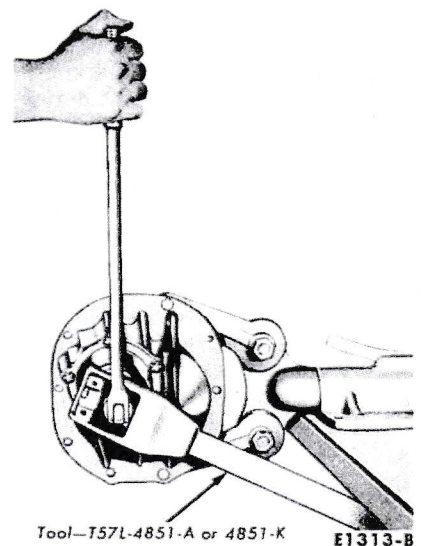
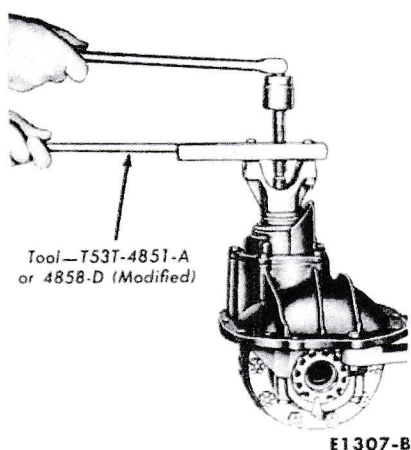

FIG. 35—Removing Pinion Shaft Nut
FIG. 36—Removing U-Joint Flange
1. Turn the carrier case upright, and remove the pinion shaft nut (Fig. 35). Then remove the U-joint flange (Fig. 36).
10. Hold the flange (Fig. 35) and